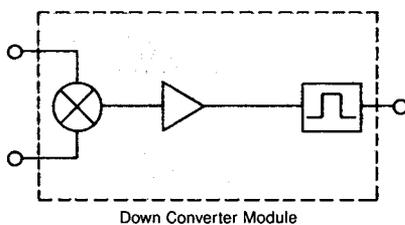

Figure 5. Block diagram of a typical downconverter module which can be characterized using the techniques described in this note.
A second mixer measurement is a swept IF test. The two sweep oscillators are set up as shown in Figure 2. The difference from the fixed IF test is that the slave (LO) sweep oscillator is set to a fixed LO frequency and the master (RF) sweep oscillator is swept across the specified RF bandwidth. The resulting IF sweep provides conversion loss, the IF bandwidth, passband ripple of any filters in the IF signal path, and amplifier performance. Figure 5 shows a block diagram of the type of device this test may characterize. Figure 6 shows an example measurement of swept IF conversion loss. Remember that the